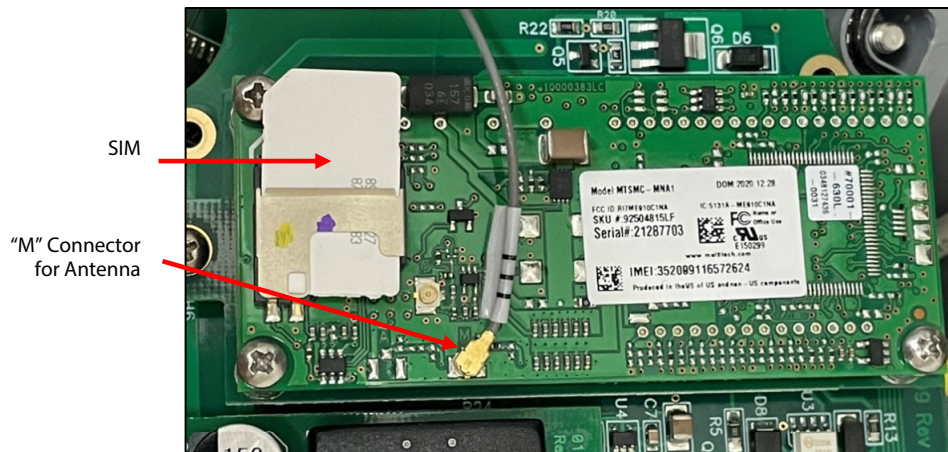

Figure 11: MetriNet cellular modem board with SIM card
6. Turn the terminal board over to access the modem as shown in Figure 11.